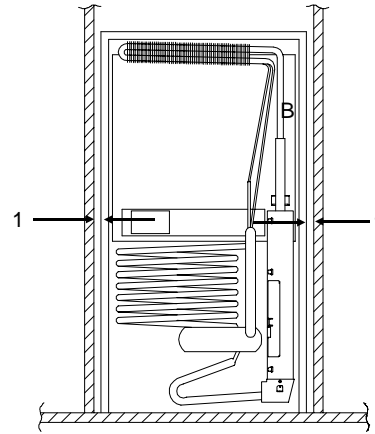

Figure 4
### Side Wall Clearance - Figure 4
1. Figure 4 illustrates the requirement to minimize the clearance at the sides of the refrigerator. The clearance is not to exceed 1/2 inch. Side clearances in excess of 1/2 inch must be either filled with Fiberglass batting or blocked with paneling, etc.